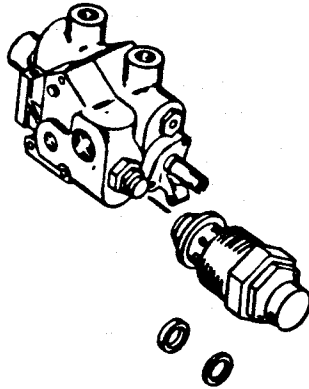

Figure E-9. Relief Valve Adjustment
3. If the pressure reading is low, shut off the engine and remove the relief valve plug (Figure E-9). Install one 0.010" shim which will provide a 125 PSI increase.